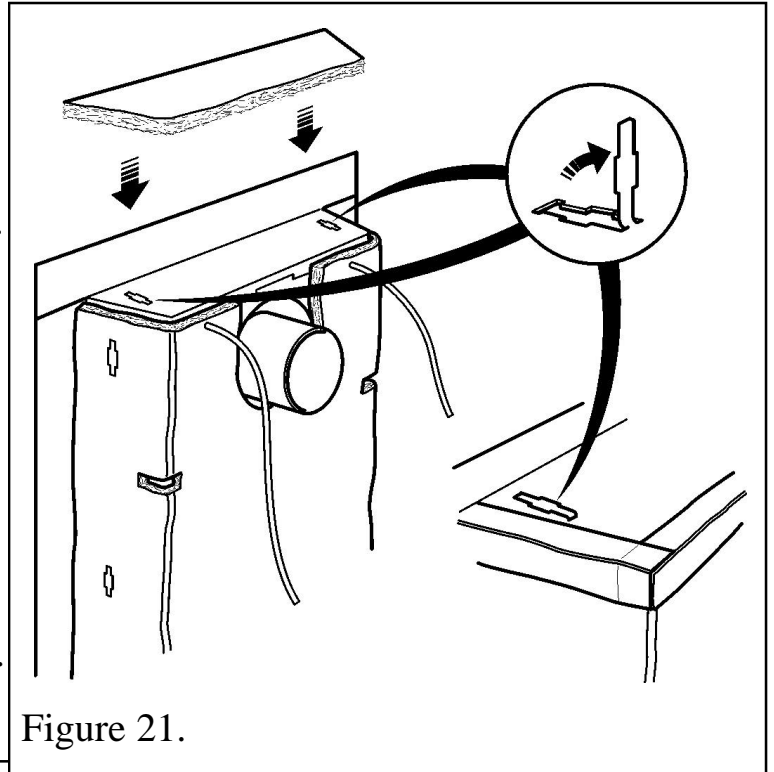

Figure 21.
Ensure the Rockwool insulation jacket is securely positioned on the back of the firebox. Fit the top part of the jacket to the top of the firebox by securing with two tags as shown in figure 21.
2. Insert cables into cable anchor points in upper rear of firebox and then tape together adjoining edges of the jacket as shown in figure 21.